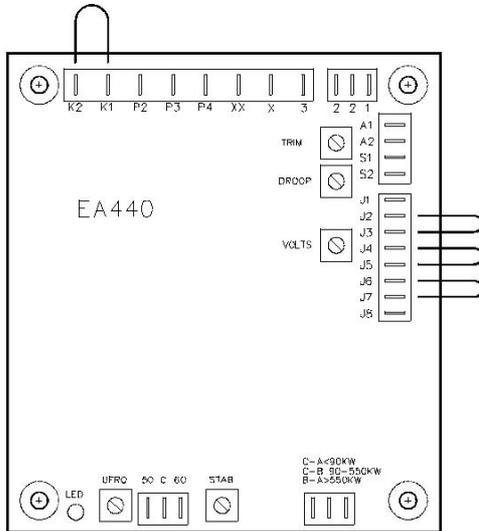
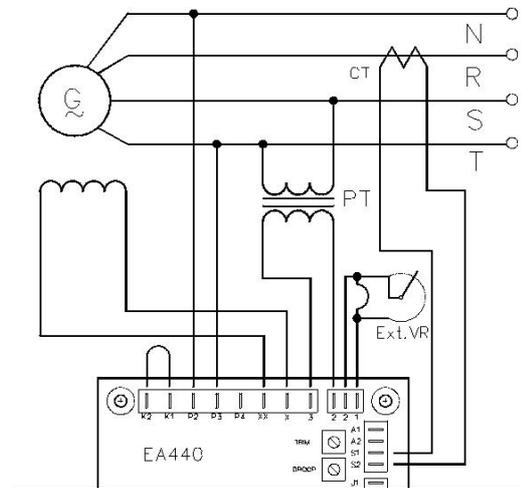

Figure 2 Bypass Drawing
Figure 3 Wiring Drawing
please refer to Figure 2 and Figure 3.
1. When it is required to operate the regulator in parallel with an isolated or utility bus, in addition to the regulator provisions, a 10VA current transformer (CT) is required (See Figure 3). The CT is connected in a generator line and should deliver from 1 amperes secondary current at rated load.
1. For reactive droop compensation, connect the CT to its respective regulator as shown on Figures 3.
wires are not connected well	Please refer to Figure 2
Terminal 3&2 no sensing input	Please refer to Figure 2